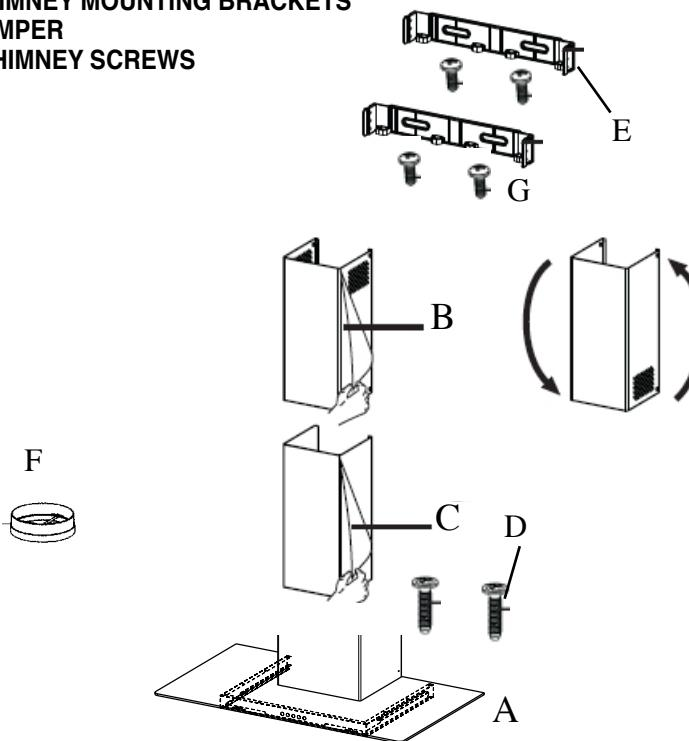

FIGURE 1
4. The chimney mounts by two brackets (E in FIGURE 1).
1). Note the position of the brackets. The top bracket should be installed about 1/8" away from the ceiling. The bottom bracket must be installed at the bottom point of the upper chimney sleeve. See "Y" in FIGURE 5, and use 2 screws (G in FIGURE 1) to attach each of the brackets to the wall. Use the center line on the wall as the middle point for the chimney brackets.
5. For the most secure installation, the MOUNTING SCREWS (D in FIGURE 1) which mount the CANOPY SECTION (A in FIGURE 1) should be installed into wood. Mark the wall along the horizontal line 4 9/16" in from the center line on either side (as indicated in X - FIGURE 5) and install the MOUNTING SCREWS into the wall leaving about 1/4" gap between the wall and the head of the screw.
1. Remove the unit from the carton and place on a flat surface for assembly. Cover the surface to prevent accidental damage. Remove all parts including the mounting hardware before discarding the carton. Remove the Protective covering from the chimneys and rangehood canopy section (**A, B, C** in **FIGURE 1**).